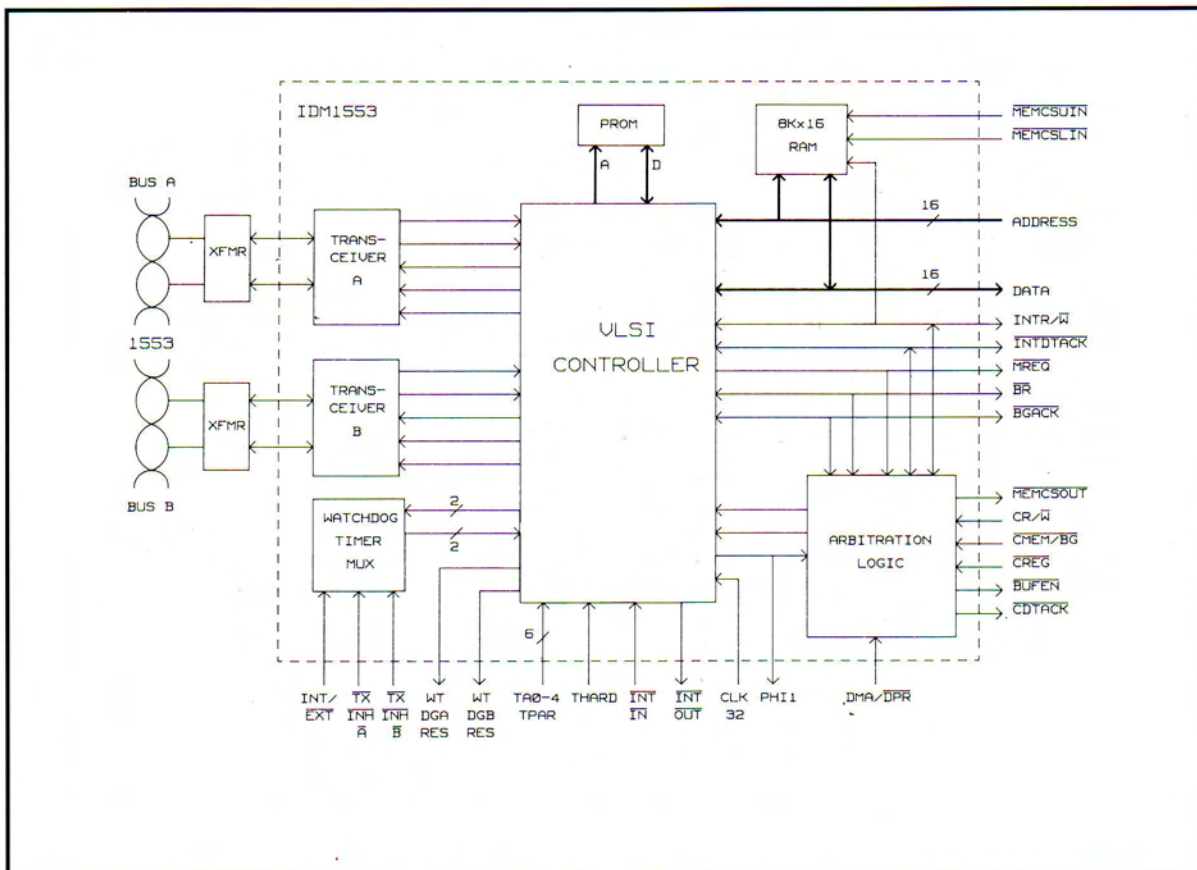

Fig. 1 Block Diagram of IDM1553 (MIL - LINK) Hybrid
The C-MAC IDM 1553 (MIL-LINK) Integrated Databus Module is a complete MIL-STD 1553B or STANAG 3838 interface, capable of operation in Bus Controller (BC), Remote Terminal (RT) and Bus Monitor (BM) modes, see block diagram fig. 1